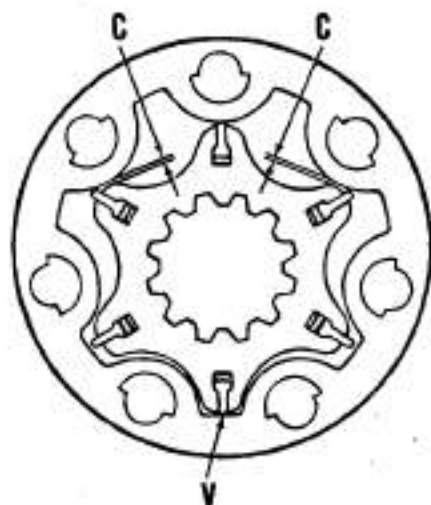

Fig. 28—With rotor positioned in stator as shown, clearances (C) must not exceed 0.15 mm (0.006 inch). Refer to text.
Position lobe of rotor in valley of stator as shown at (V—Fig. 28). Center opposite lobe on crown of stator, then using two feeler gages, measure clearance (C) be-